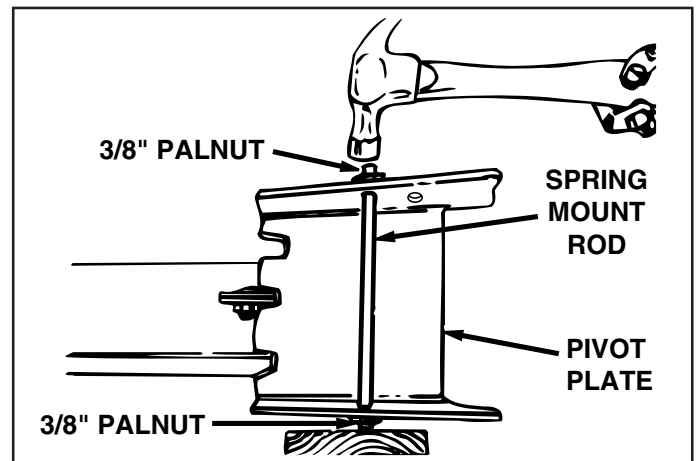

FIGURE 11 (Top View)
- Using a hammer, drive a 3/8" palnut onto one end of spring mount rod. Insert the other end of the spring mount rod through the rear holes on both sides of the pivot plate. Support end (with palnut) of the spring mount rod with a block of wood, and hammer on the remaining palnut. See figure 11.